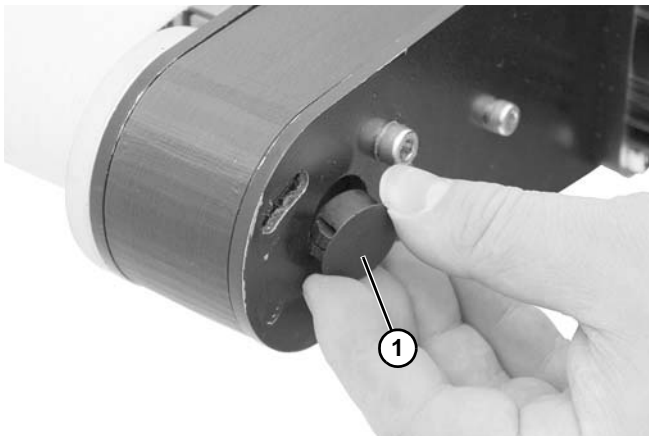

Figure 18
1. Remove plug (Figure 18, item 1).